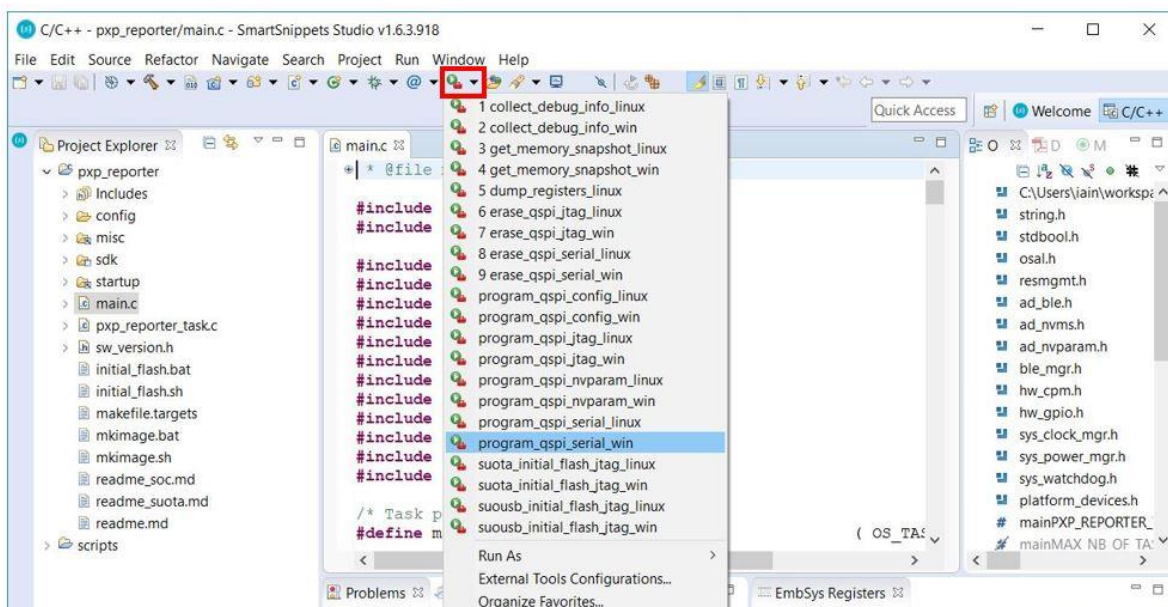

Figure 6: External Tool Configurations Menu
5. Select the External Tool Configurations button (highlighted in Figure 6), choose the appropriate script file (in this example, the `program_qspi_serial_win` script is used) to program the QSPI Flash memory and select Run (alternatively, click **Run > External Tools > program_qspi_serial_win**).